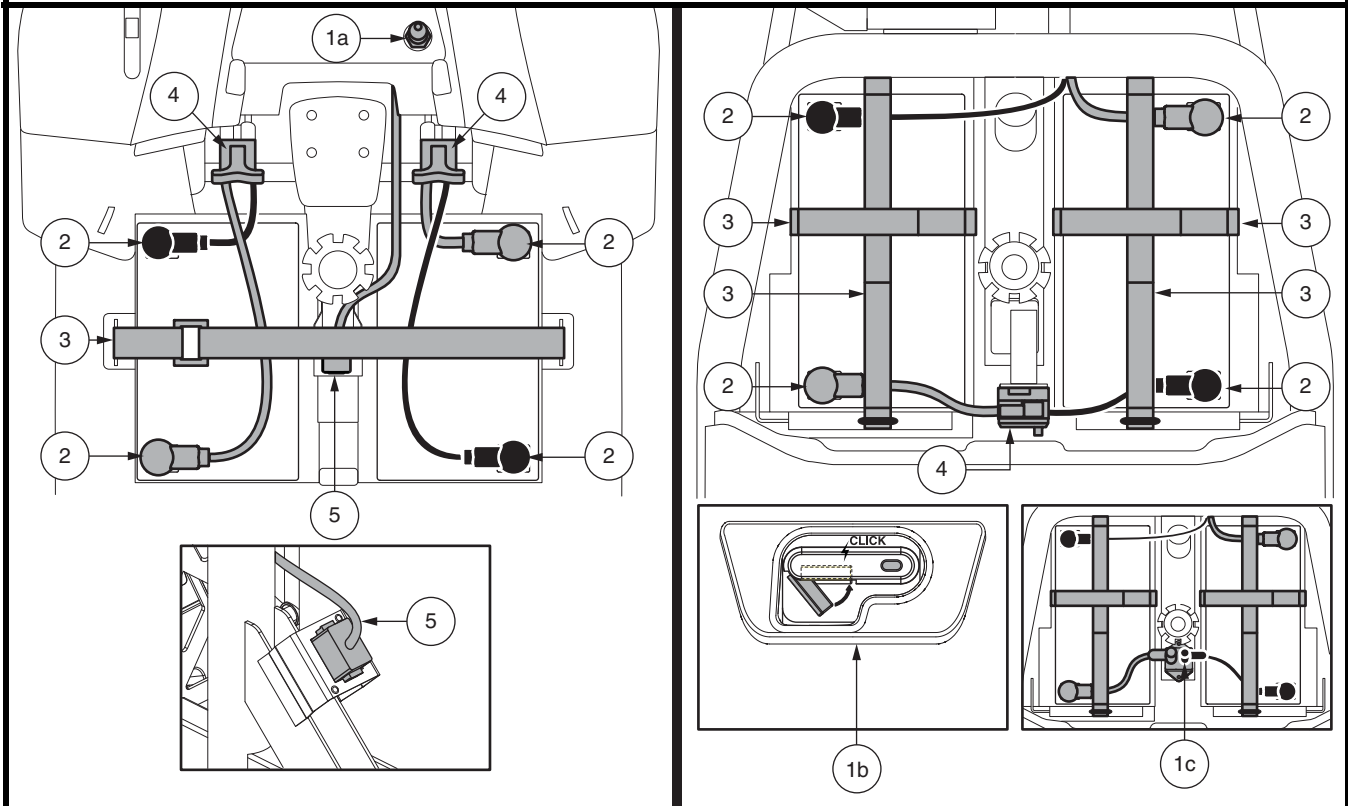

Figure 14. Battery Removal/Installation Terminals and Connections
3. For all models EXCEPT 614 and 714, disconnect the front-to-rear harness. Unplug both battery harnesses by pulling each harness out of its mating plug. See figure 14.
6. Place a new battery in each battery well. Face the battery terminals of each battery away from the seat post with the positive (+) and negative (-) battery terminals positioned as shown in **figure 14.**